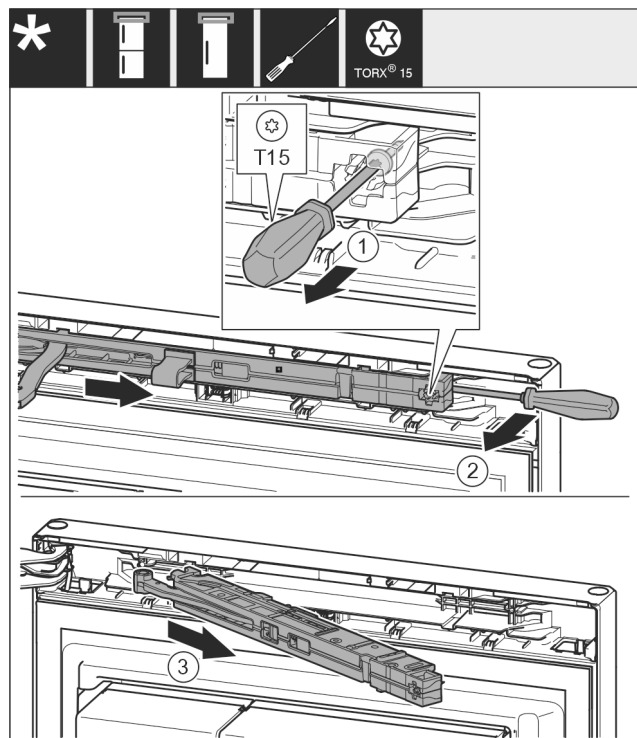

Fig. 7
- ▶ Undo the soft stop mechanism screw with a T15 screwdriver approx. 14 mm (9/16 in). Fig. 7 (1)
- ▶ Insert a screwdriver behind the soft stop mechanism on the handle side and rotate the unit forwards. *Fig. 7 (2)*
- ▶ Pull out the soft stop unit. *Fig. 7 (3)*